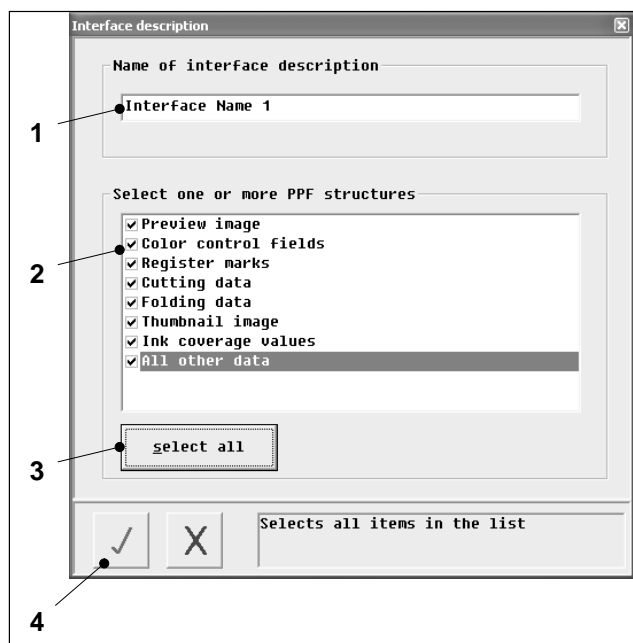

Fig. 46 Selecting attributes
3. Enter the desired name of the interface description (for example *Interface Name 1* Fig. 46/1). The system prompts you to enter a different name if the specified name already exists.
4. Select the PPF attributes you wish to assign to this interface description (Fig. 46/2). Use the *Select all* button (Fig. 46/3) if you wish to accept all PPF attributes.
5. Confirm by hitting *OK* (Fig. 46/4). Your entries are saved and the dialog window is closed.